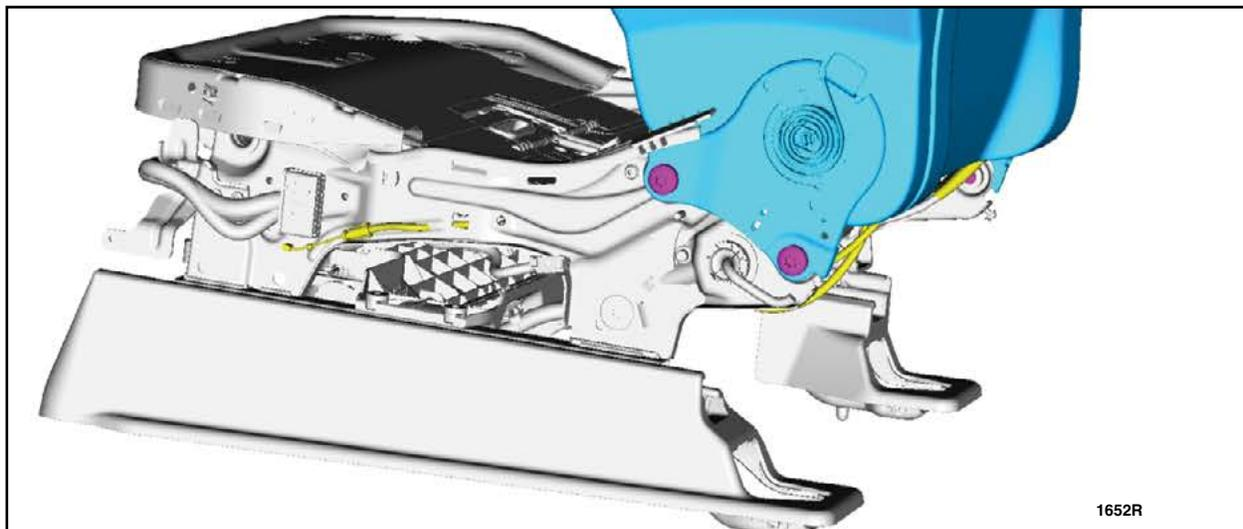

FIGURE 24
9. Remove and discard the four bolts and remove the front seat backrest. See Figure 24.